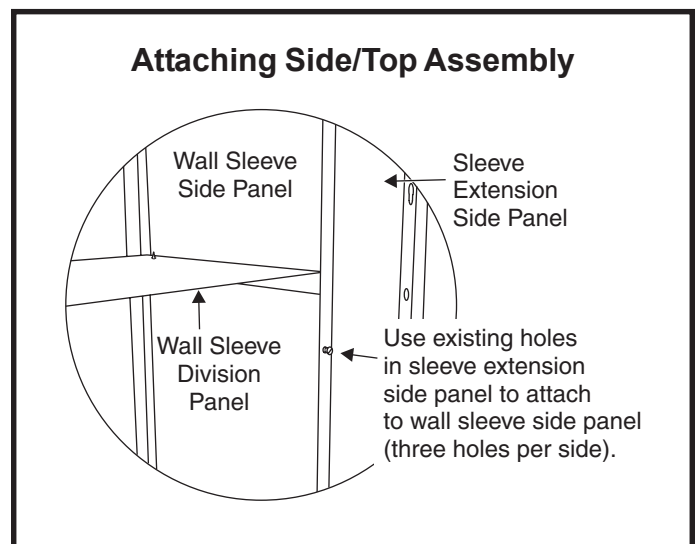

**Figure 1**
1. Remove outside screws holding wall sleeve division panel to side panels as shown in Figure 1.